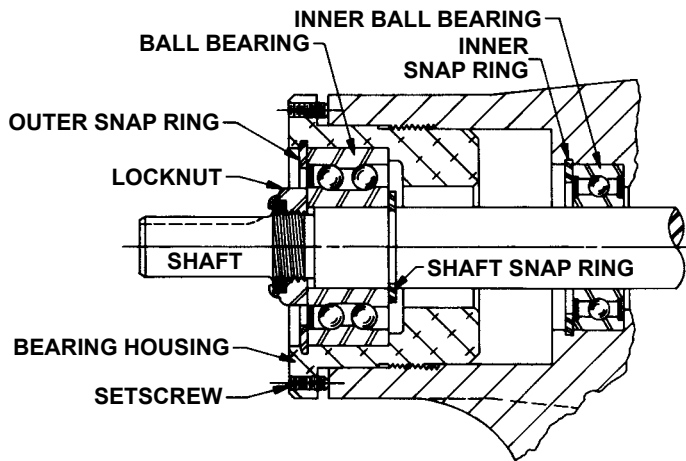

FIGURE 9
6. Remove the locknut from the shaft. See Figure 9 or 10. A brass bar or piece of hardwood inserted in the port opening and between the rotor teeth will keep the shaft from turning.
7. Loosen the two setscrews in the face of the bearing housing and turn the thrust bearing assembly counterwise and remove from the casing. See Figure 9 or 10.
8. Remove the snap ring from the shaft for GG, HJ and HL size pumps. See Figure 9.
12. Remove the inner snap ring and single row ball bearing from the casing. **See figure 9.** The AS, AK & AL size pumps do not have this snap ring.
15. Disassemble thrust bearing assembly. Remove outer snap ring from bearing housing for GG, HJ or HL size pumps and ball bearing can be removed. **See figure 9.**
See figures 9 and 10.
16. Pack double row ball bearing with multi-purpose grease, NLGI#2 and press into bearing housing with shield side toward coupling end of shaft. **See Figure 9**. (AS, AK and AL size pumps do not use a shielded bearing). Install snap ring to hold bearing in place on GG, HJ and HL size pumps.
See Figures 9 and 10.